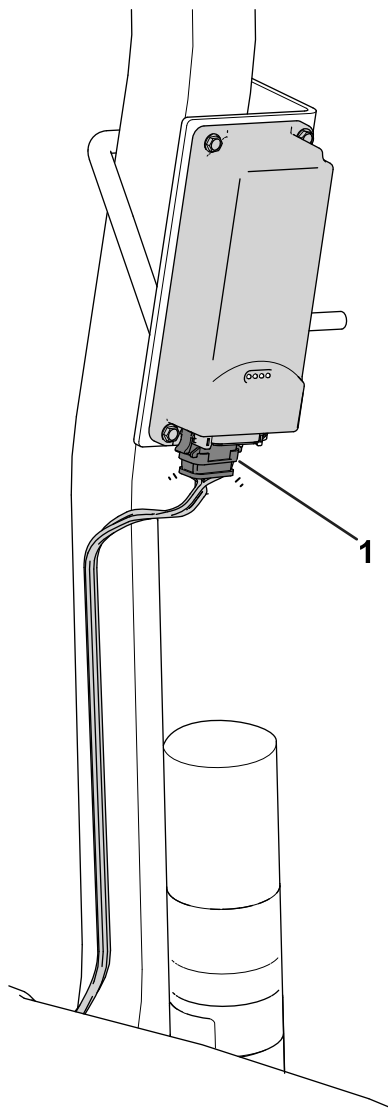

Figure 9
3. Install the connector labeled P02 on the telematics wire harness to the telematics device (Figure 9).